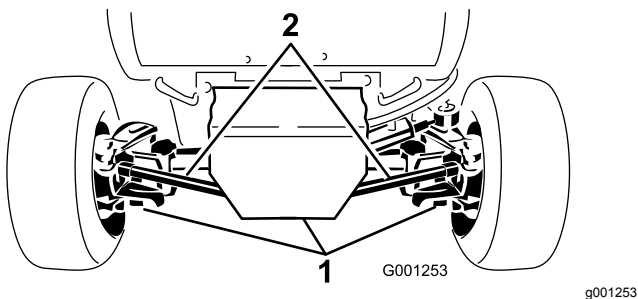

Figure 59
2. Clean the areas around the 3 drain plugs (Figure 59).